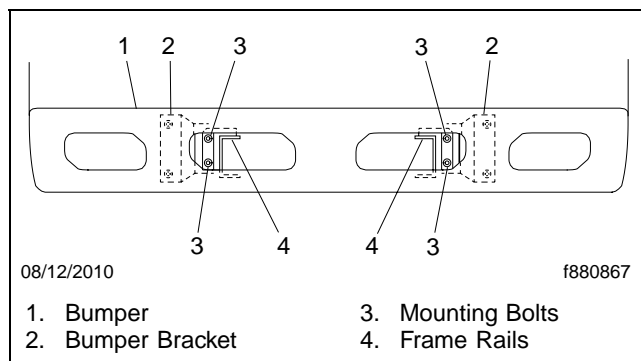

Fig. 3, Bumper Installation
6. Remove the front bumper. See **Fig. 3**.